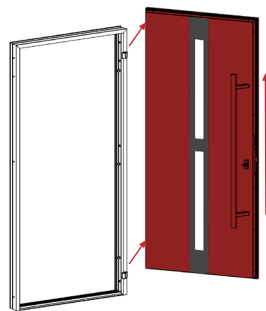

Figure 7.
3.1. Remove the door leaf from the frame (figure 7).